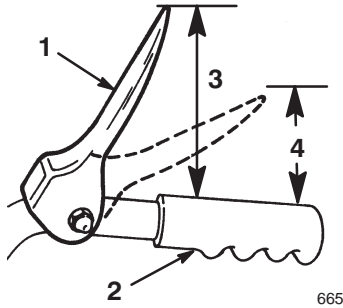

Figure 6
2. Adjust the 2 flange nuts up or down on the traction rod until the distance between the top of the handgrip and the bottom of the traction control lever is approximately 4-3/8 inches (11 centimeters) as shown in Figure 6.
**Note:** The adjustment is correct when the wheels stop rolling backward and the distance between the top of the handgrip and the bottom of the traction control lever is 1 to 2 inches (2.5 to 5.0 centimeters) as shown in Figure 6.